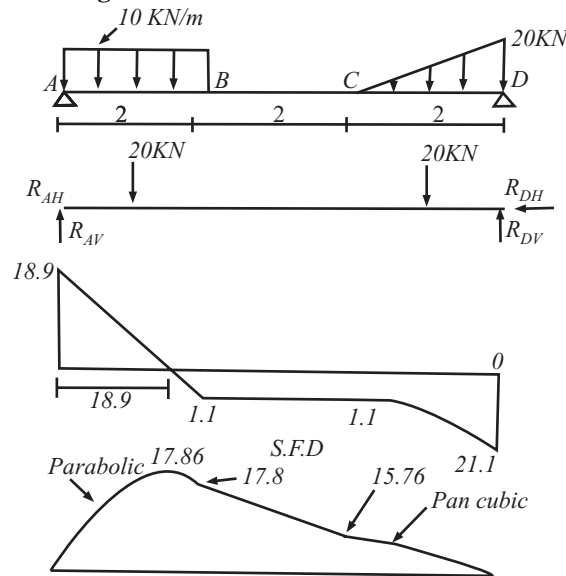

Fig 12.12
Q.11: Determine the SF and BM diagrams for the simply supported beam shown in fig 12.12. Also find the maximum bending moment.